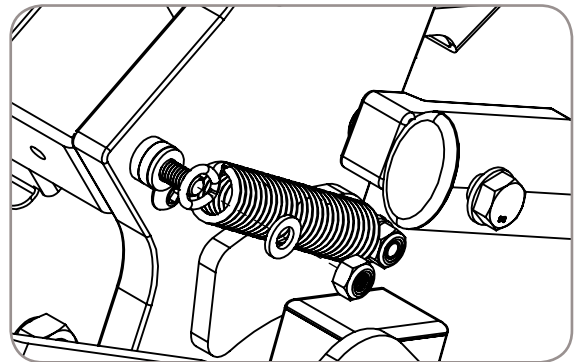

Figure 19
1. Remove upper nut and washer, Reference Figure 19. 4mm hex wrench & 10mm wrench required. Be careful not to lose inner spacers.